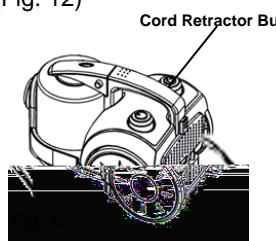

Fig. 12
3. To rewind the power cord, press the cord rewind button with one hand and guide the power cord with the other hand to ensure that it does not whip causing damage or injury. (Fig. 12)